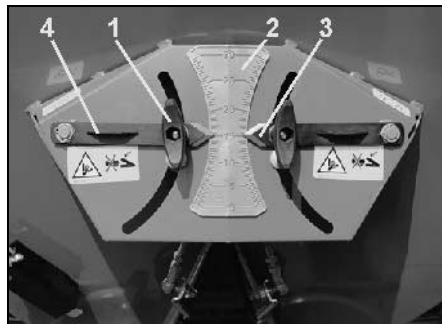

Fig. 27
- Slacken thumb nut (Fig. 27/1).
- Read off the scale (Fig. 27/2) the scale figure for the shutter position taken either from the setting chart or determined with the calibration device.
- Set the read off edge (Fig. 27/3) of both setting levers (Fig. 27/4) on this scale figure.
- Retighten thumb nut (Fig. 27/1) firmly.